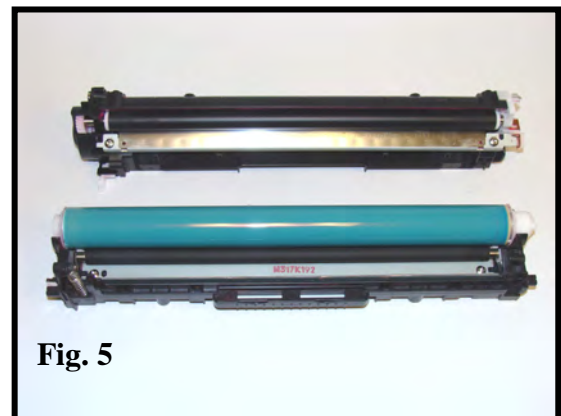

Fig. 5
5. Separate the cartridge halves - drum side down - so the drum does not fall from the waste unit (Fig. 5).